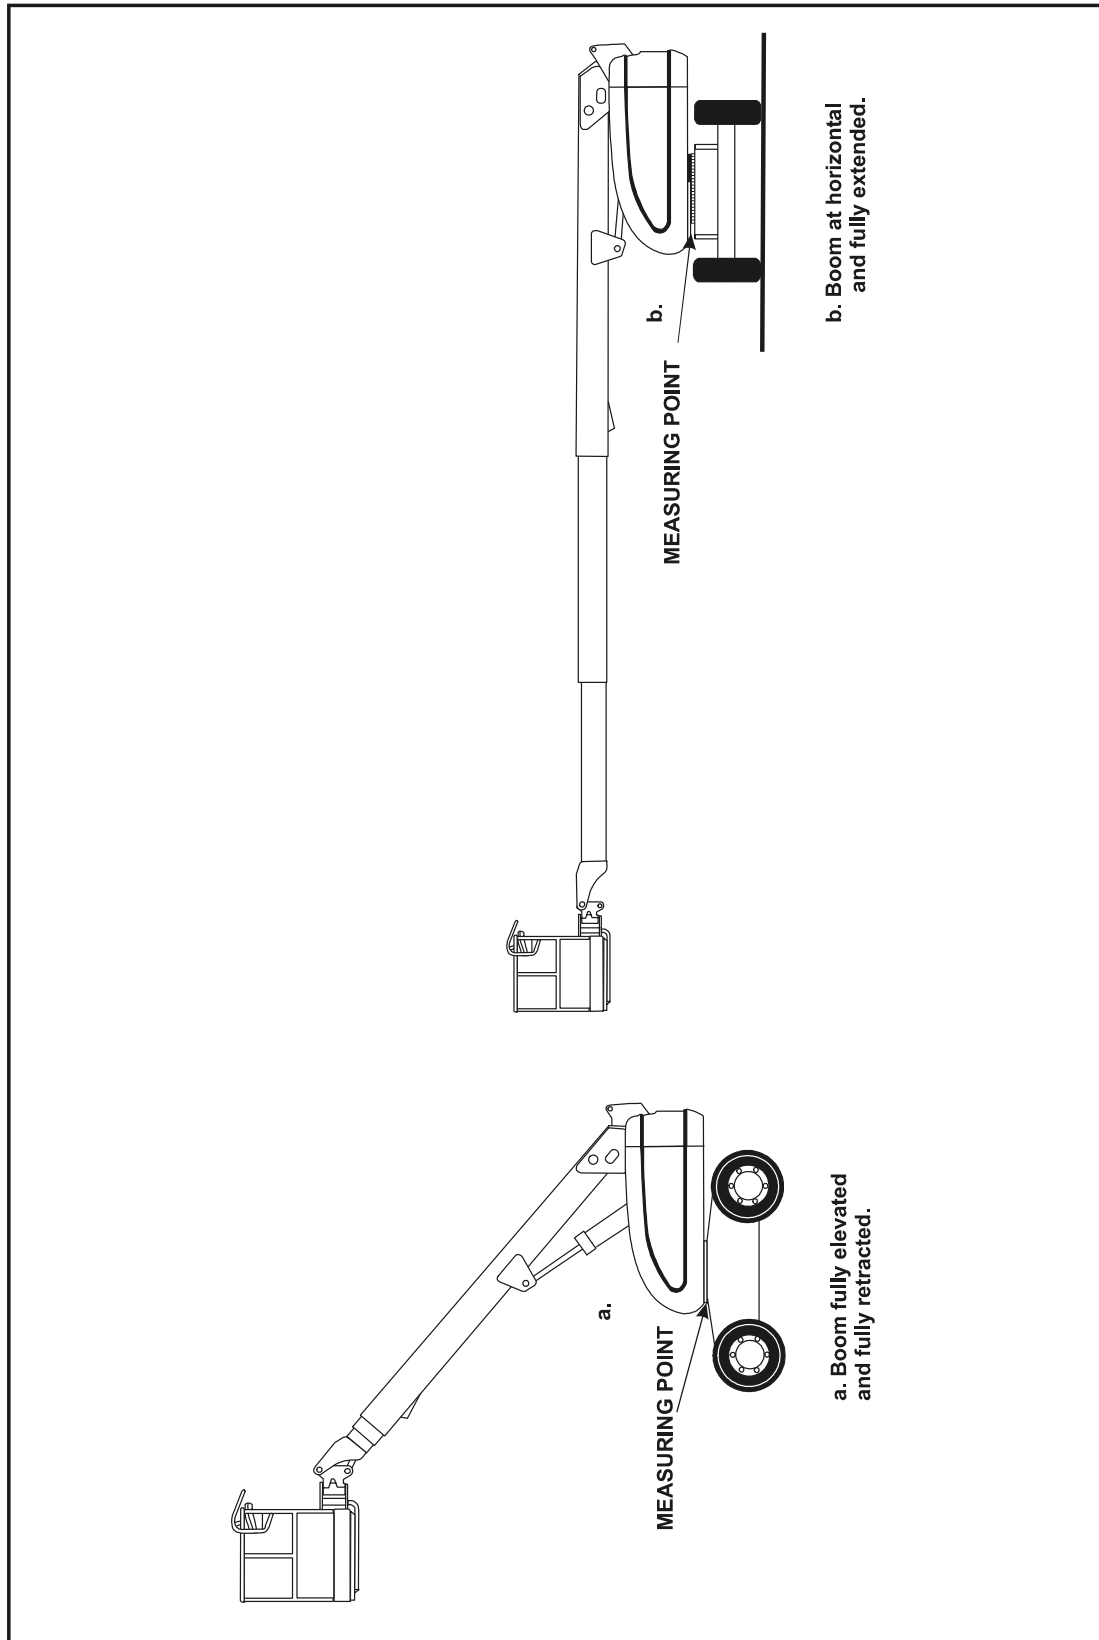
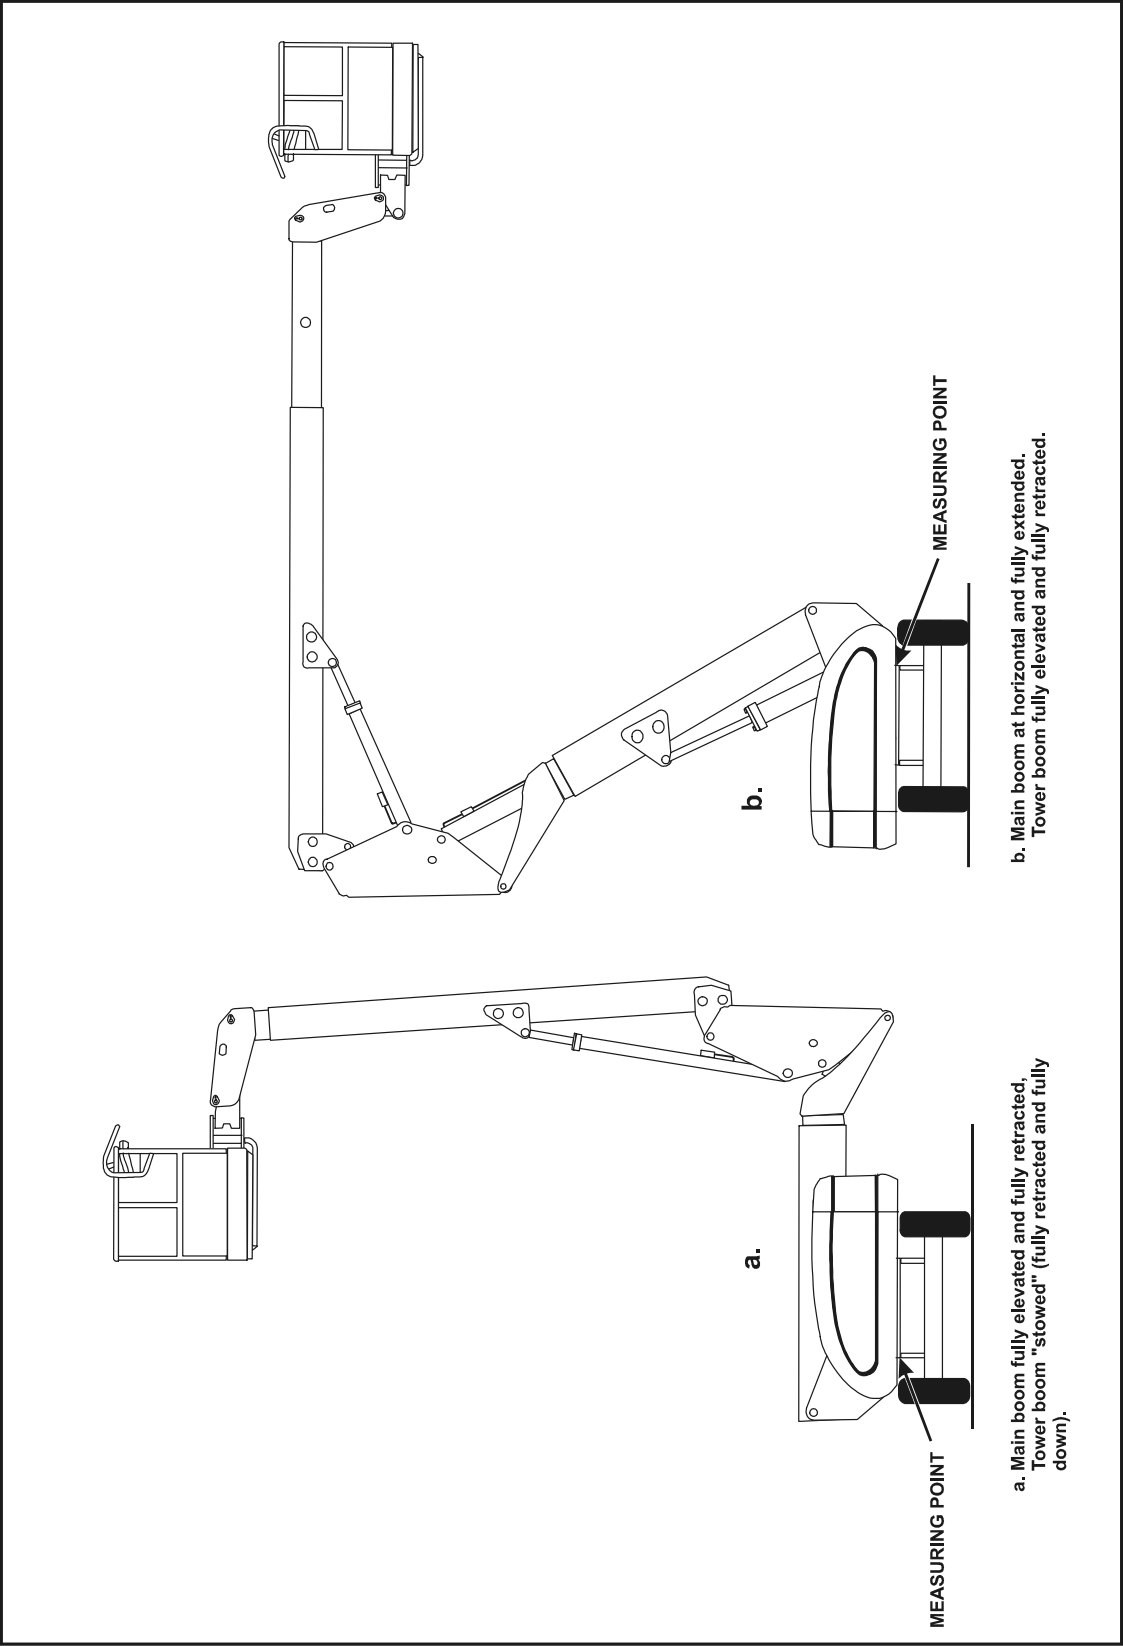
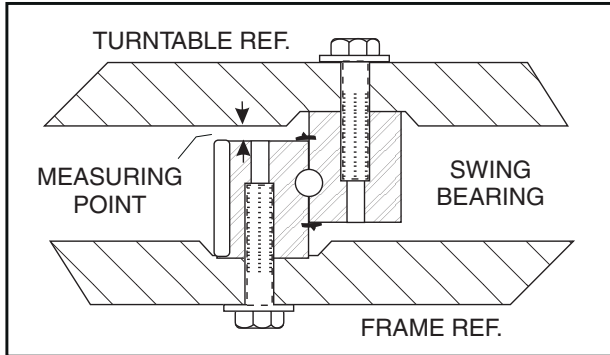

Figure 3-28. Swing Bearing Tolerance Boom Placement (S Models)
Figure 3-29. Swing Bearing Tolerance Boom Placement (A Models)
Figure 3-30. Swing Bearing Tolerance Measuring Point
1. From the underside of the machine, at rear center, with the boom fully elevated and fully retracted, as shown in Figure 3-28., Swing Bearing Tolerance Boom Placement (S Models) and Figure 3-29., Swing Bearing Tolerance Boom Placement (A Models) - Swing Bearing Tolerance Boom Placement A, using a magnetic base dial indicator, measure and record the distance between the swing bearing and turntable. (Figure 3-30., Swing Bearing Tolerance Measuring Point)
2. At the same point, with the boom at horizontal and fully extended, and the tower boom fully elevated as shown in (Figure 3-29., Swing Bearing Tolerance Boom Placement (A Models) - Swing Bearing Tolerance Boom Placement) B, using a magnetic base dial indicator, measure and record the distance between the swing bearing and turntable. (Figure 3-30., Swing Bearing Tolerance Measuring Point)